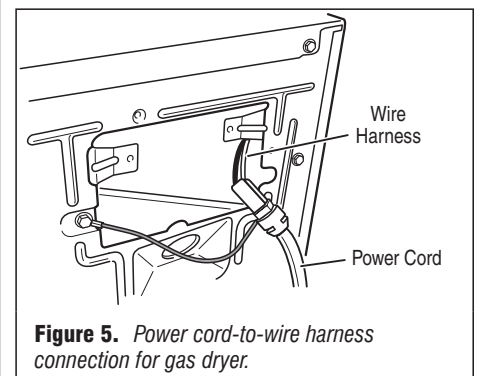
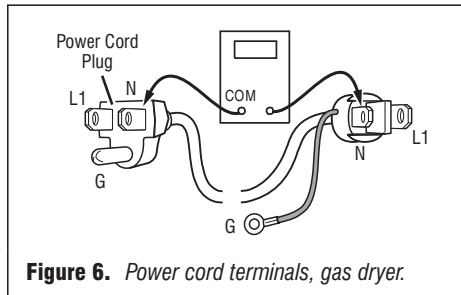

Figure 5. Power cord-to-wire harness connection for gas dryer.
Figure 6. Power cord terminals, gas dryer.
3. Check that the power cord is firmly connected to the dryer's wire harness. See figure 5.
5. With an ohmmeter, check for continuity between the neutral (N) terminal of the plug and P8-3 (white wire) on the machine control board. The left-hand side of figure 6 shows the position of the neutral terminal (N) on the power cord plug. Also see figure 18, page 10.
the location illustrated in figure 5, page 4. Test the continuity of the power cord neutral wire as illustrated in figure 6. If an open circuit is found, replace the power cord. Otherwise, go to step 6.
- If there is no continuity, check the continuity of the power cord in a similar way to that illustrated in figure 6, but for power cord's L1 wire.